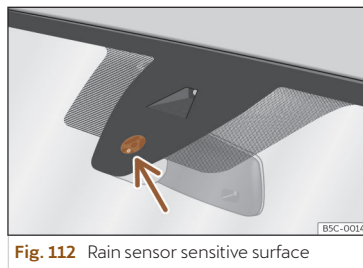

Fig. 112 Rain sensor sensitive surface
The possible causes of anomalies and erroneous interpretations in the sensitive surface area >>> Fig. 112 of the rain sensor are, among others:
- **Dirt:** dry dust, wax, coating on glass (Lotus effect) or traces of detergent (car wash) may reduce the effectiveness of the rain sensor or make it react more slowly, later or not at all. Regularly clean the sensitive surface of the rain sensor >>> **Fig. 112** (arrow) and check for possible damage to the wiper blades.